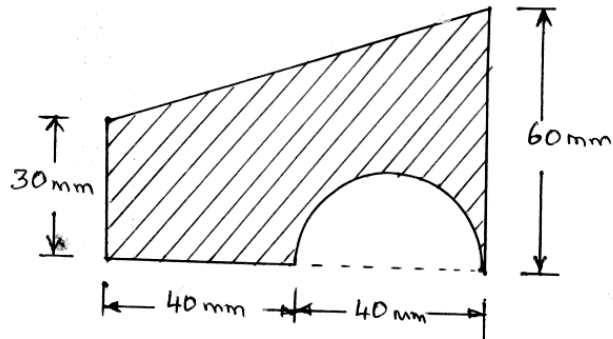

Fig. Q.13 (a)
13. (a) Locate the centroid of the lamina shown in Fig. Q.13 (a)